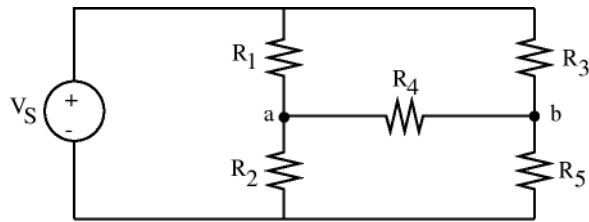

Figure 4: Circuit 2
3. Build the circuit shown in Figure 4 on the breadboard mounted to the bench top, using the DC power supply as v_s . Once you have built the circuit, set the value of v_s to 1 V. Be sure to use the multimeter to make sure the terminal voltage of the power supply is as close to 1 V as you can get it.